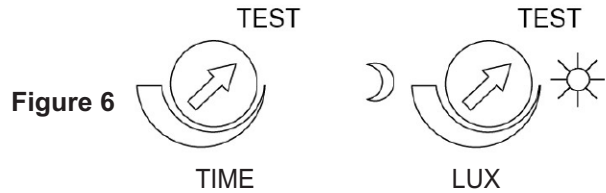

Figure 6
(1) TEST MODE
- Turn the Light control and the time control anti-clockwise to the edge – the TEST position. (Figure 6).